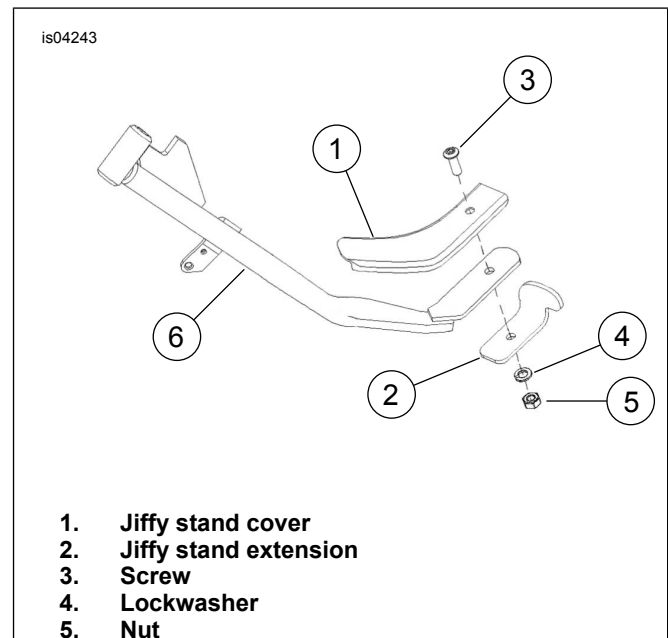

Figure 1. Jiffy Stand Extension Assembly
2. Figure 1. Obtain the jiffy stand cover (1) from kit and slide the cover over the jiffy stand until it is in the outermost position.
7. Obtain the screw (3), jiffy stand extension (2), lockwasher (4) and nut (5) from kit.
8. Using Figure 1 as a reference, orient the jiffy stand extension as shown and assemble the extension kit using the hardware stackup shown.